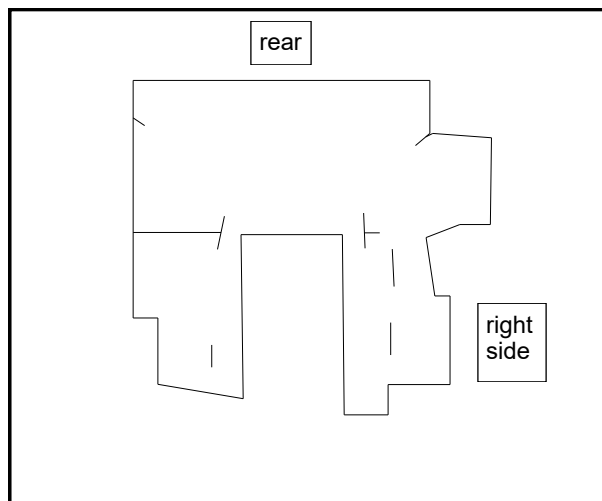

Fig. 19.1 (Underseat Filler)
**19.1** Move and tip the seat forward. Figures 19.1 thru 19.1c show the underseat filler. Begin by doing a dry fit to get a feel for where all areas fit best. (Underseat Filler highlighted in white for clarity). Example: slots are for seat belts to pass through, etc.. Start by lining up straight edge "A" with the lower rear panel. Apply the corresponding velcro where deemed necessary and to match the velcro on the vinyl filler. Do not cover up any factory decals.